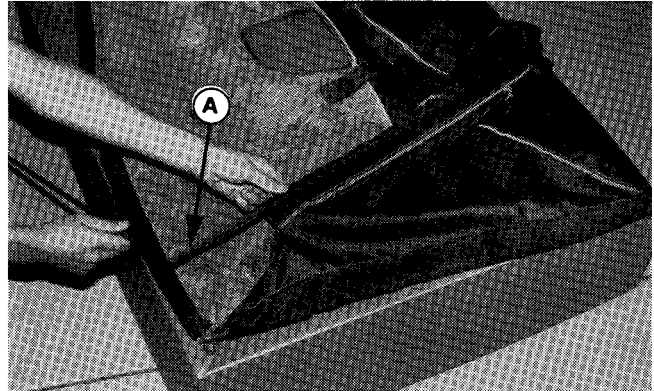

Figure 8.
- b. Thread the support rod (A, figure 8) (2 eye bolt ends) through the sleeve inside the cover.